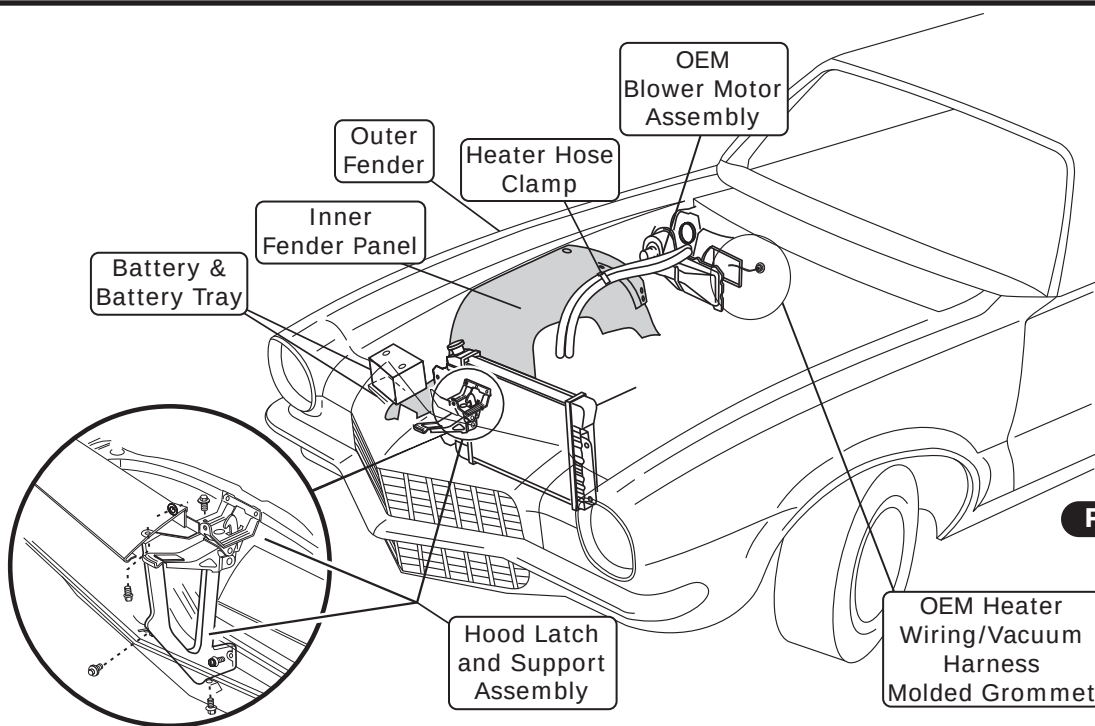

Figure 1
4. Remove the condenser, lines and the (4) OEM rubber well nuts in the core support (discard).
6. Remove the evaporator and blower assembly (discard). To remove the evaporator and blower assembly (under hood) and the air distribution system (under dash), the factory manual indicates doing the following: **Remove the right lower rocker molding. Remove the lower fender attaching bolts. Remove the skirt to the fender and the skirt to the reinforcement screws. Pull out on the lower portion of fender, moving the skirt away from the fender flange and firewall. Block the skirt with a 2" x 4" block of wood.** To avoid damage to the paint and sheet metal, and for ease of removal and replacement of components, Vintage Air suggests that the right fender be removed and inner panel be lowered. Remove OEM heater hoses, A/C hoses, hardlines and drier (discard) (See Figure 1, below).